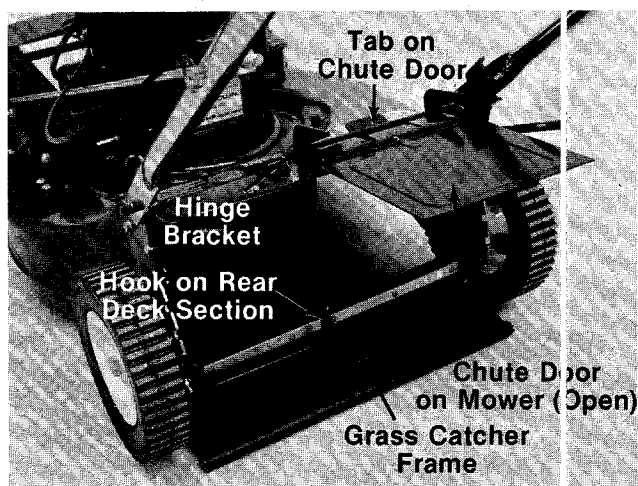

FIGURE 14.
1. Attach the grass catcher frame to rear of the mower by hooking grass catcher into hook on rear deck section. See figure 14.
Figure 14 is shown with the chute door open for photo clarity only.
2. Lift the rear of grass catcher up and slip the grass catcher frame into the slots on the hinge bracket. See figures 14 and 15.